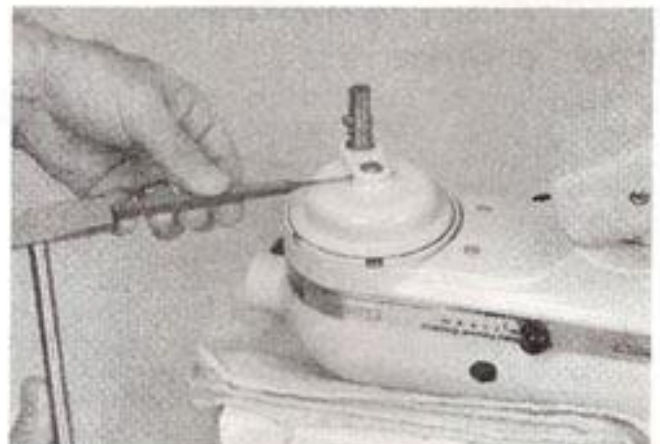
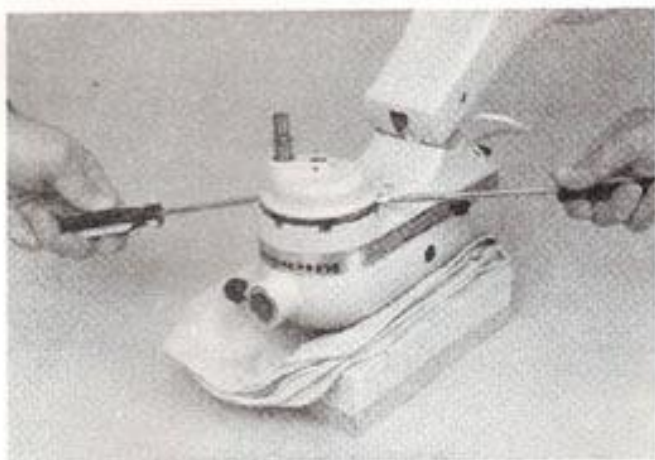

Fig. 3
Fig. 4
- D. With $5/32$ " drift punch, remove the groove pin that holds the planetary to the vertical center shaft (Fig. 3). With pin out, the planetary can be pried off the shaft. With two screwdrivers, pry the planetary down and off the shaft (Fig. 4).